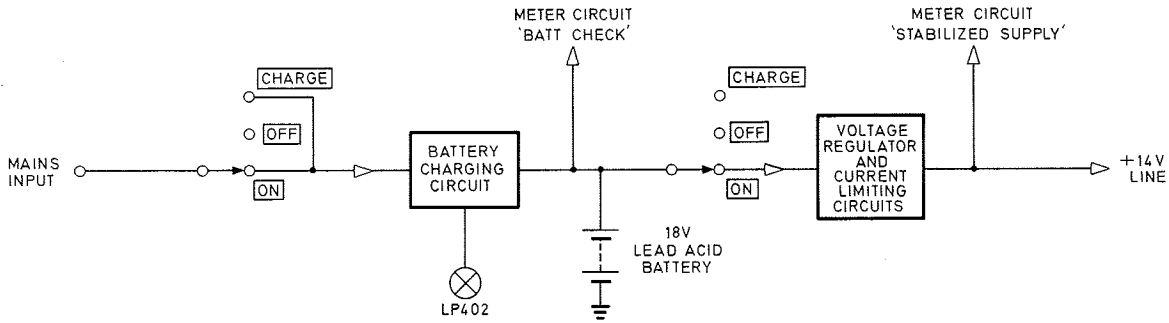

Fig. 3.1 Power Supply Block Diagram
3.1 POWER SUPPLY (Fig. 3.1 and Fig. 7.2)
3.2 VOLTAGE STABILISING CIRCUIT (Fig. 3.1 and Fig. 7.2)